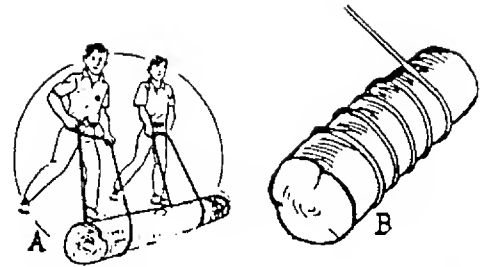

Figure 403 The Gun Tackle
44. Use a gun tackle in competition for rolling a log. See Figure 403-A. A second type of gun tackle is shown in Figure 403-B.